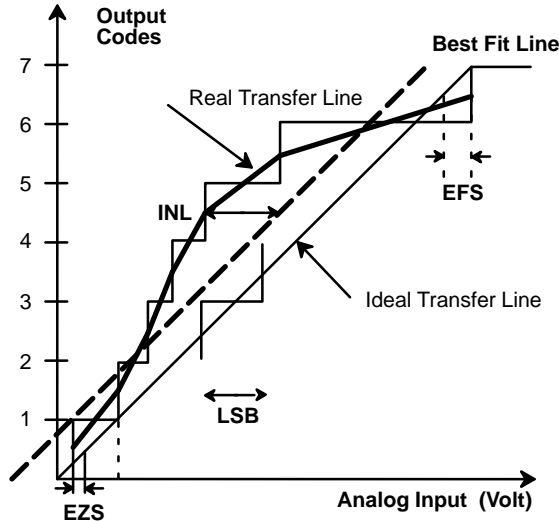

Figure 7. INL Error Calculation
- ² Tester measures code transition voltages by dithering the voltage of the analog input (V_{IN}). The difference between the measured code width and the ideal value ($V_{REF}/1024$) is the DNL error (see NO TAG). The INL error is the maximum distance (in LSBs) from the best fit line to any transition voltage (See Figure 7.).
Figure 7. gives a visual definition of the INL error. The chart shows a 3-bit converter transfer curve with greatly exaggerated DNL errors to show the deviation of the real transfer curve from the ideal one.